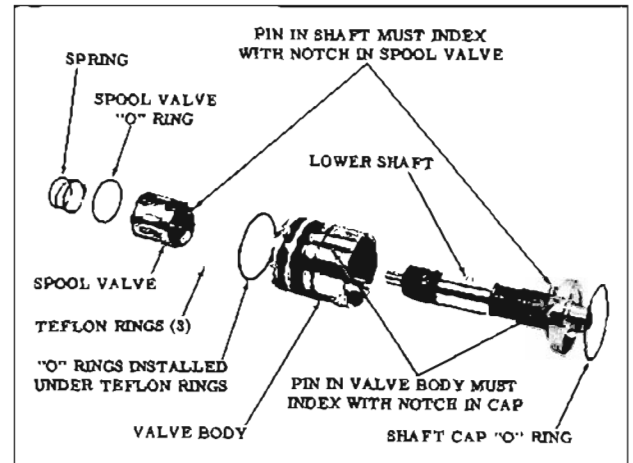

Fig. 8-57 Valve and Lower Shaft Assembly
ASSEMBLY (Fig. 8-57)
3. Assemble the lower shaft assembly in the valve body so the notch in the lower shaft cap engages with the pin in the valve body. (Fig. 8-57) If necessary, tap the shaft cap with a plastic hammer until cap is seated in the valve body.